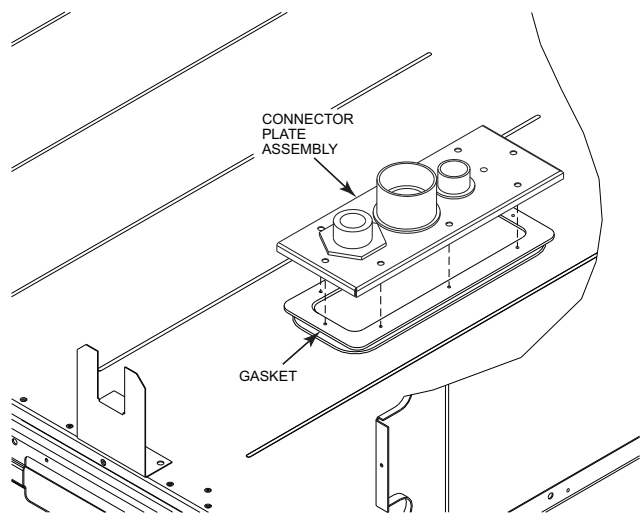

Fig. 29 — Completing Installation of Thru-the-Base Option (Size 16 Shown)
4. Place the gasket over the embossed area in the basepan, aligning the holes in the gasket to the holes in the basepan. See Fig. 29.